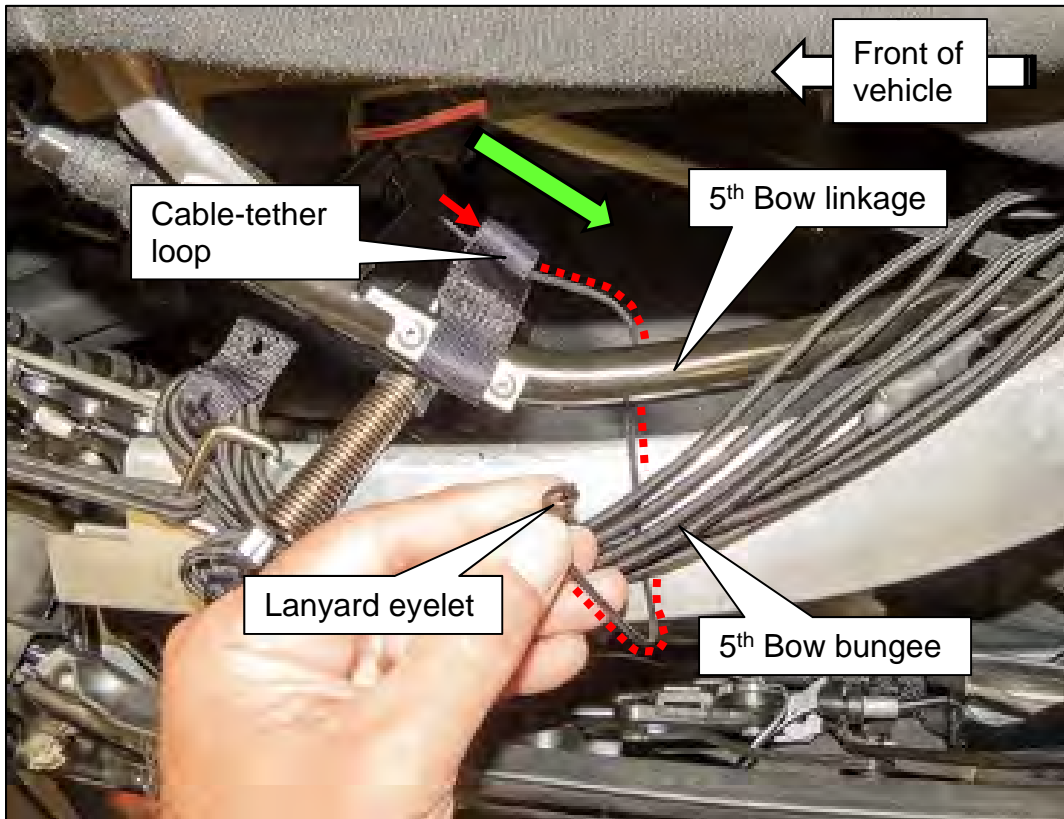

Figure 39
46. Thread the lanyard eyelet through the cable-tether loop in the direction indicated in Figure 39.